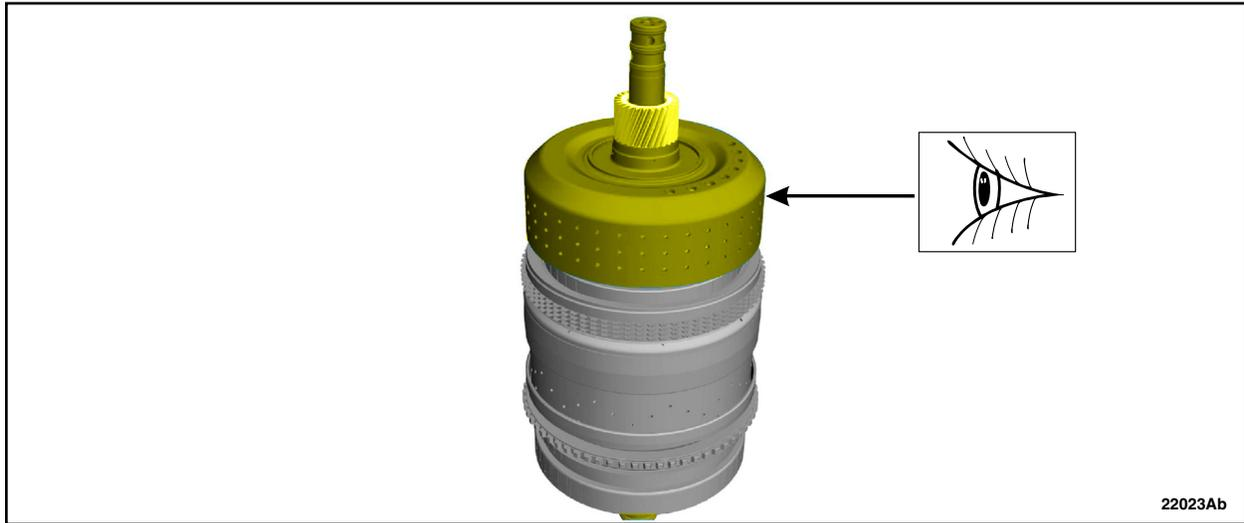

FIGURE 25
28. Inspect the No. 4 sun gear surfaces for damage. See Figure 25.